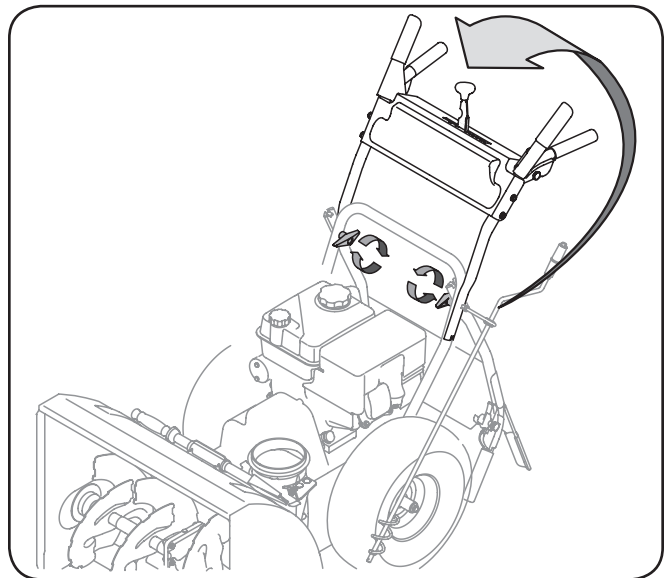

Figure 3-17
2. Observe the lower rear area of the snow thrower to be sure both cables are aligned with roller guides before pivoting the handle upward. See Figure 3-17.